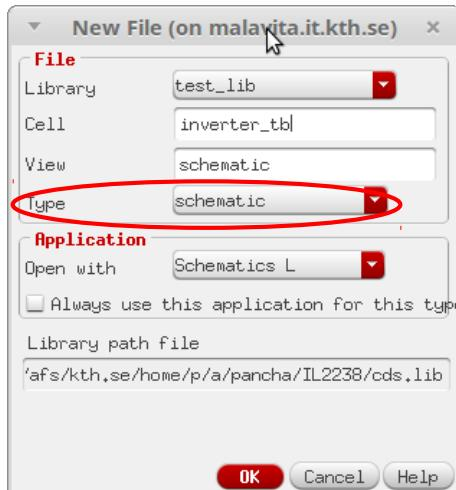

Figure 18: Create a Testbench cell
1. Go to the Library Manager and create a new cell inside the same library ("test\_lib"). In the field "Type" select "schematic" (see Fig. 18).